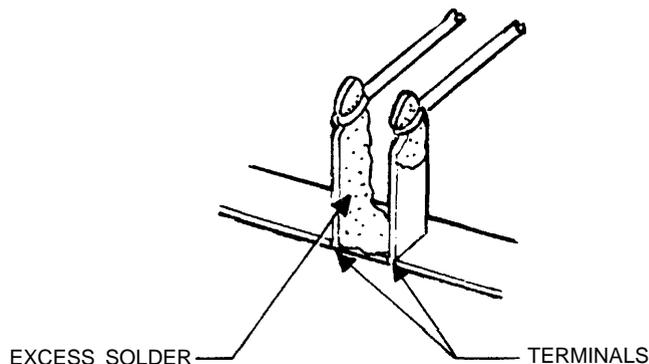

Figure 11. Excessive Solder on Vertical Terminals
6.13 Improper soldering technique on vertical terminals may result in a cross or short circuit between adjacent terminals, as shown in Figure 11. Sometimes the excess solder settles